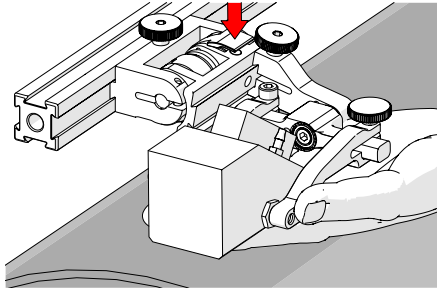

Fig. 71 - Lift and press latch button
3. Lift the probe slightly and press the latch button (Fig. 71) to apply spring pressure to the wedge.